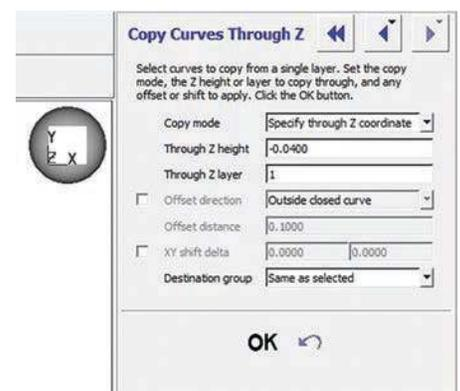

Figure 8: Extending the inner perimeter model contour using the Copy Curves Through Z menu options.
STEP 10: From the **Edit** menu, select **Copy Curves Through Z** to extend the new inner perimeter model contour down to the build sheet. Change the **Copy mode** to **Specify through Z coordinate**. Specify the desired value into the **Through Z height** field (in this case: -0.0400). Change the **Destination group** to **Same as selected** (Figure 8).